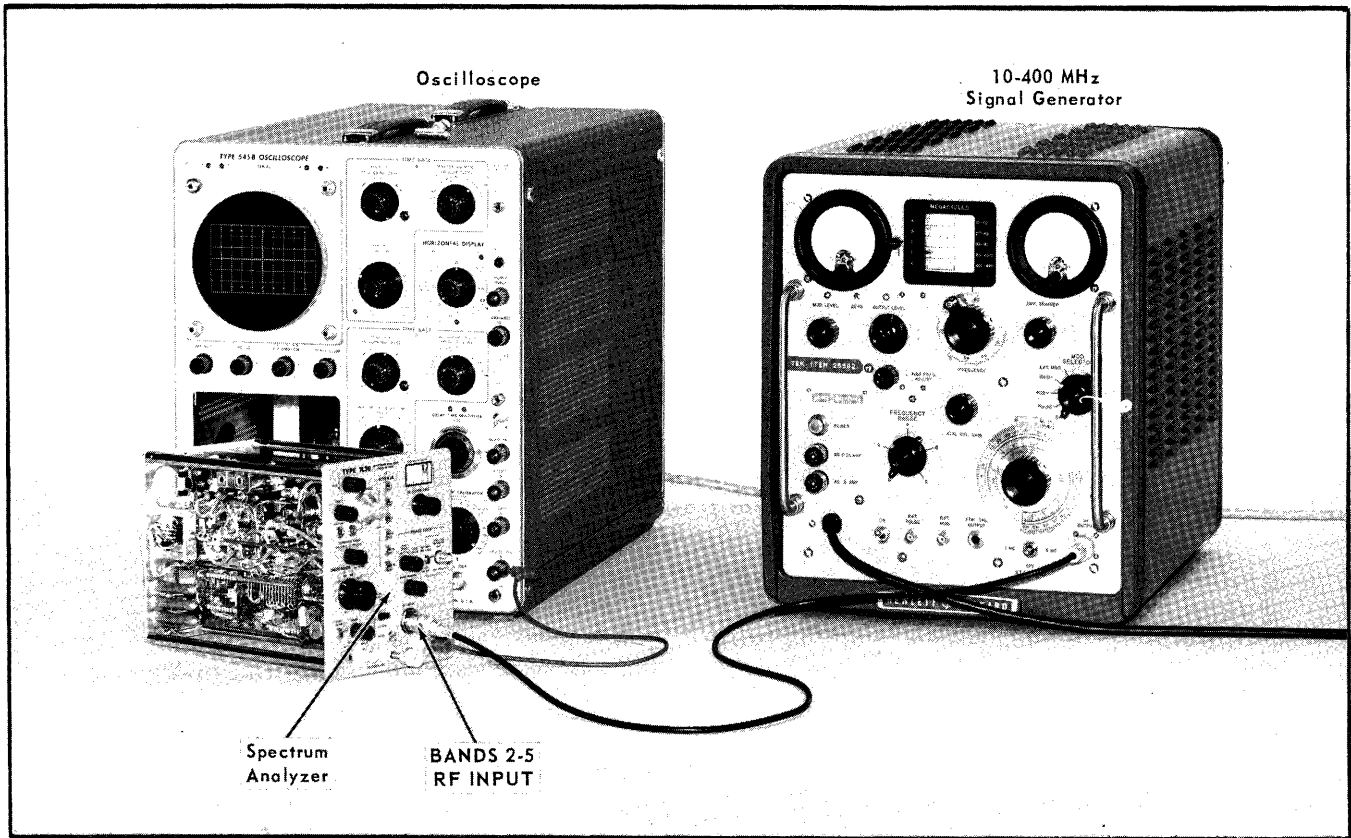

Fig. 6-20. Setup for Steps 13 through 16.
- c. If a spurious signal is observed, position it to the center of the CRT and adjust C14 and C16 (see Fig. 6-20) for minimum amplitude.
- a. Connect the equipment as shown in Fig. 6-20.
14. Adjust and Check Dynamic Ranges ❶
- a. Set up the equipment as shown in Fig. 6-20.